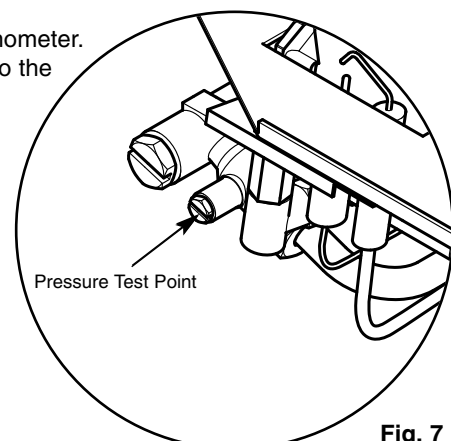

Fig. 7
1. Unscrew the pressure test point sealing screw (Fig. 7) and fit a manometer. Consult the user instructions (page 11). Ignite the appliance and turn to the high position.